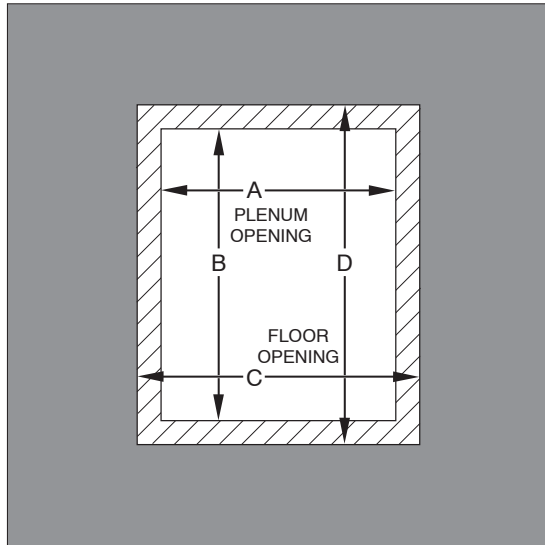

Fig. 21 - Floor and Plenum Opening Dimensions
2. Construct hole in floor per dimensions specified in Table 3 and Fig. 21.
3. Construct plenum to dimensions specified in Table 3 and Fig. 21.
Do not bend duct flanges inward as shown in Fig. 21. This will affect airflow across heat exchangers and may cause limit cycling or premature heat exchanger failure. Remove duct flange completely or bend it inward a minimum of 210° as shown in Fig. 24.